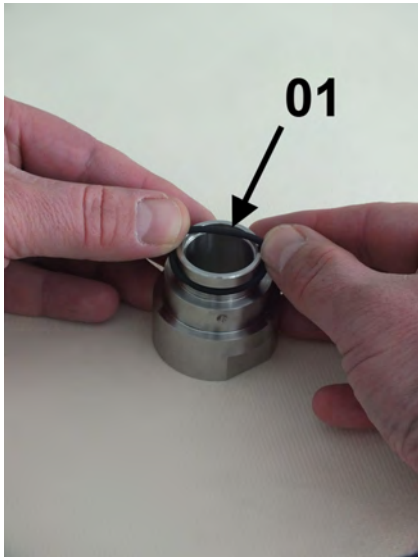
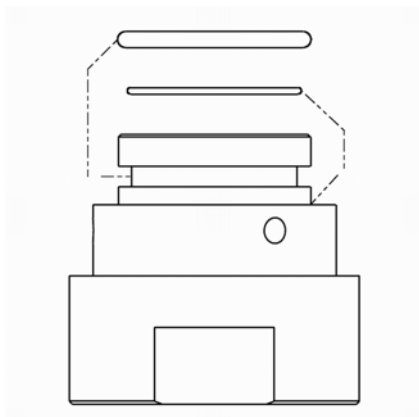

Fig. 41: O-ring (seal)
Fig. 43: Position of O-rings
1. ➤ Carefully install the O-ring (seal) onto the process connection (Fig. 41/01), so that it rests in the upper O-ring groove of the process connection (Fig. 43). When doing so, be careful not to overstretch the O-ring.
2. ➤ Carefully seat the O-ring (Glass buffer) onto the process connection (Fig. 42/01), so that it is properly seated on the lower portion of the process connection (Fig. 43). When doing so, be careful not to overstretch the O-ring.